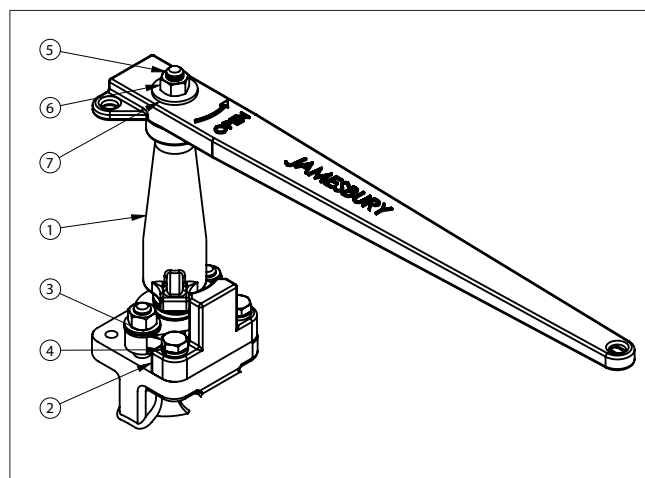

Figure 13. Stem Extension
2. Lower the handle stop (2) straight down in line with the valve stem until it is flat on the valve bonnet, and both mounting holes align with tapped holes on the valve (see **Figure 13**).
3. Insert the stop screws (3) and lock washers (4) into the mounting holes and thread into the valve until finger tight only.
4. Screw threaded rod (5) into tapped hole on top of stem.
5. Aligning the slot in the stem extension (1) with drive on the stem, lower the stem extension straight down over the threaded rod (5) and in line with the valve stem until it is completely engaged. If the stem extension (1) interferes with the stop (2), move the stop slightly to remove interference. DO NOT rotate stem!
6. Aligning the slot in the handle with drive on the stem extension (1), lower the handle straight down over the threaded rod (5) and in line with the stem extension drive until it is completely engaged. **NOTE:** When looking down at the top of the valve, the cast lettering and "OPEN" arrow on the handle should be visible. If they are not visible the handle is installed upside down.
7. Install the washer (7) over the threaded rod onto the handle. Thread handle nut (6) onto threaded rod and tighten handle nut (6) to torque value listed in **Table 6**.
9. Rotate stop (2) until the stop contacts the side of the stem extension stop boss (1) (see **Figure 13**).